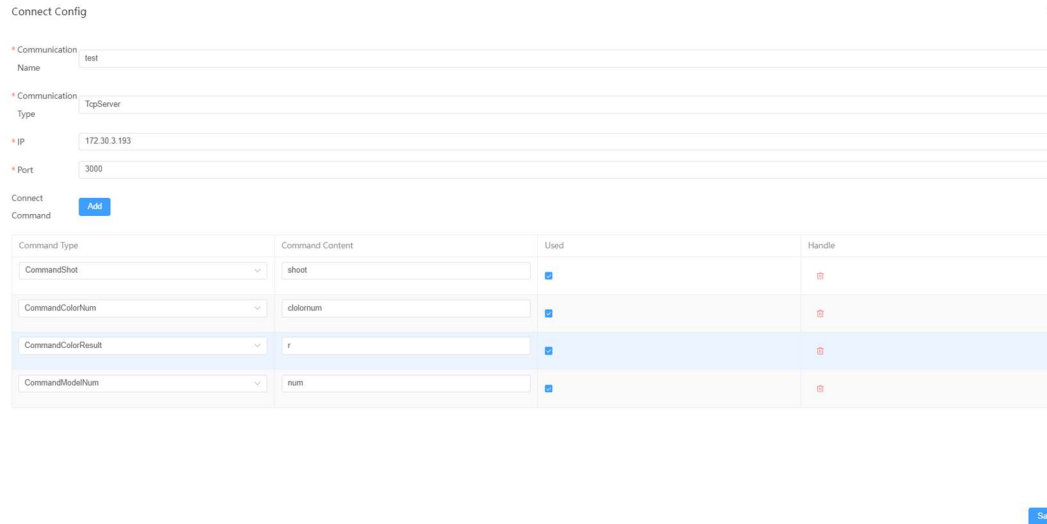

Figure 9.3.5 Communication Settings
Step 3: Communication settings: in the communication settings module, click "Add". In this flowchart, four commands are required, namely "Camera Capture", "Number of Templates", "Number of Colors Recognized", and "Color Recognition Result" as shown in Figure 9.3.5: